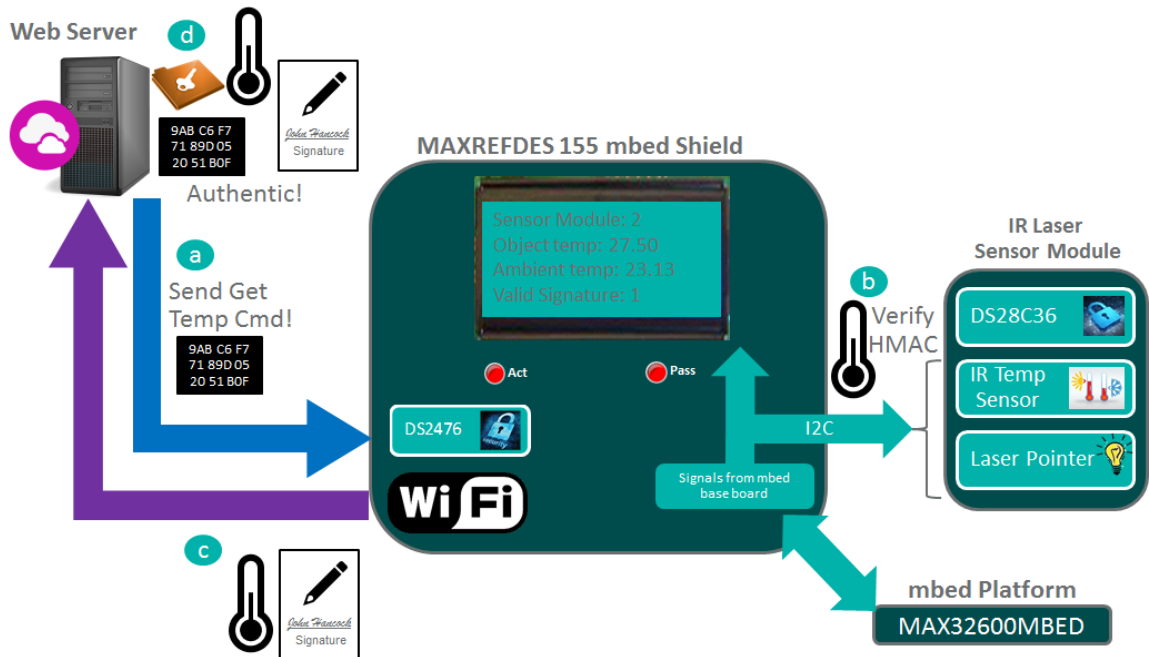

Figure 18. An illustration of Authenticated temperature readings.
4. In summary, the **Temperature Demo** authenticates temperature each time by doing the following (**Figure 18**):
- a. The web client sends the LCD image bytes and settings to the web server. (Figure 18)